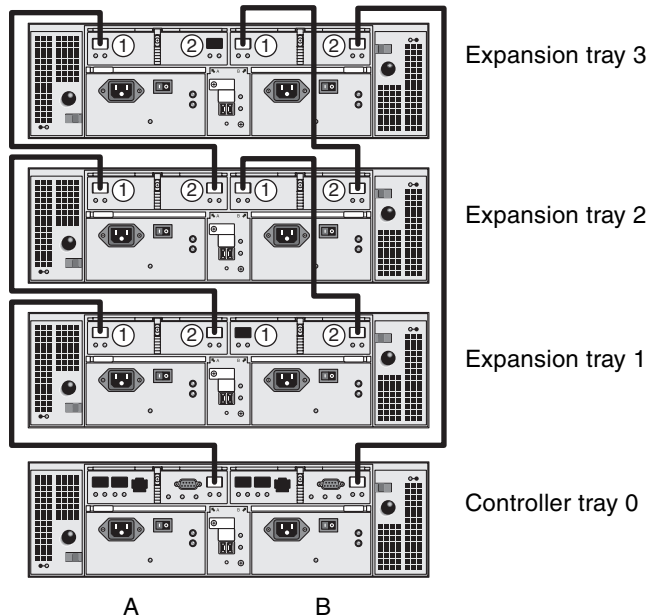

FIGURE 2-40 1x4 Array Configuration Cable Interconnection Cabling
3. Connect one FC cable between the A side expansion port of controller tray 0 and the A side port 1 of expansion tray 1 (FIGURE 2-40).
4. Connect one FC cable between the A side port 2 of expansion tray 1 and the A side port 1 of expansion tray 2 (FIGURE 2-40).
5. Connect one FC cable between the A side port 2 of expansion tray 2 and the A side expansion port 1 of expansion tray 3 (FIGURE 2-40).
6. Connect one FC cable between the B side expansion port of controller tray 0 and B side port 2 of expansion tray 3 (FIGURE 2-40).
7. Connect one FC cable between the B side port 1 of expansion tray 3 and the B side port 2 of expansion tray 2 (FIGURE 2-40).
8. Connect one FC cable between the B side port 1 of expansion tray 2 and the B side port 2 of expansion tray 1 (FIGURE 2-40).